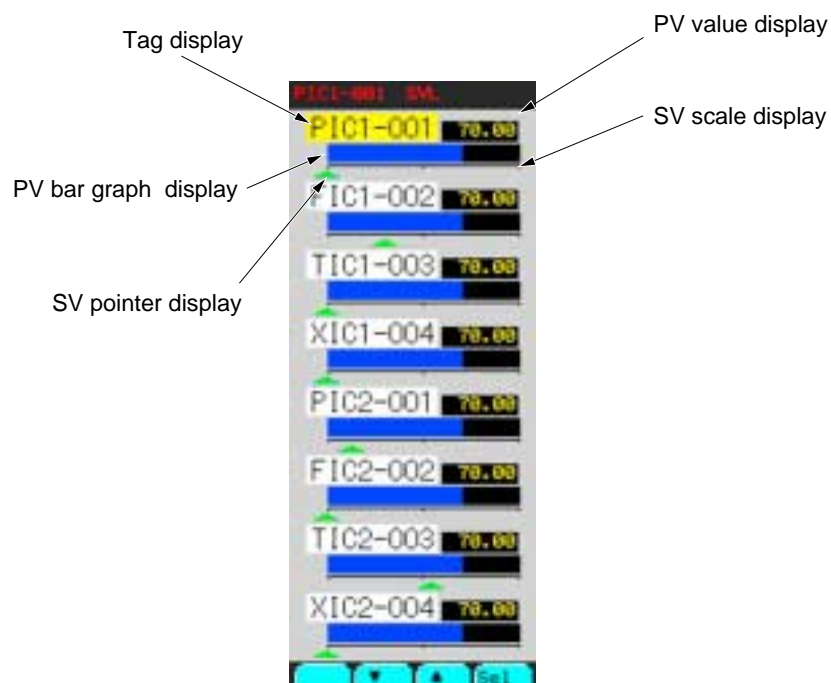

Fig. 6-1 8 LOOP screen
(3) Description of 8 Loop display screen (Fig. 6-1)